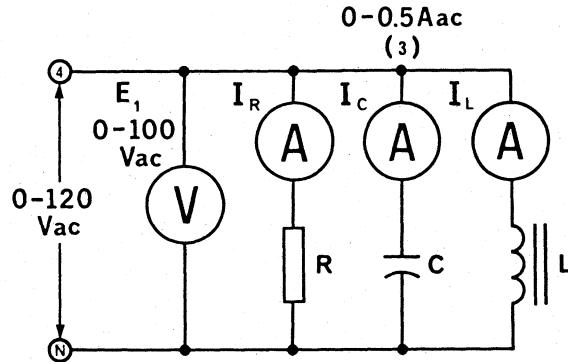

Figure 16-1.
1. Using your Capacitive Load, Resistive Load, Inductive Load, Power Supply, AC Ammeter and AC Voltmeter, connect the circuit shown in Figure 16-1.